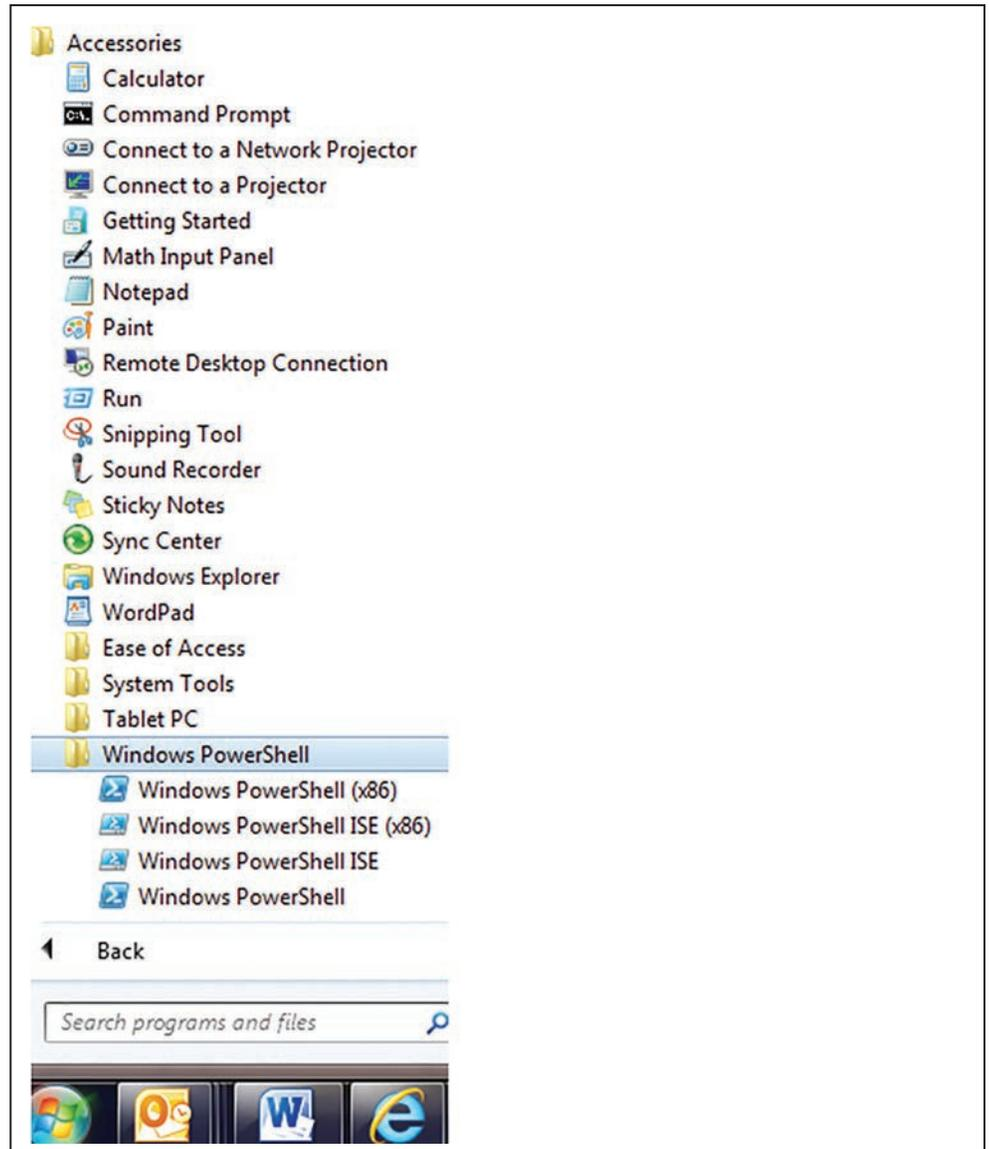

Figure 43. Selecting Windows PowerShell ISE (x86).
**STEP 1.** From the **Start** menu click on the “Accessories” entry and run Windows PowerShell ISE (x86). If the 64-bit version is accidentally chosen, “Windows PowerShell ISE,” the script will end with a message about that selection. See Figure 43.